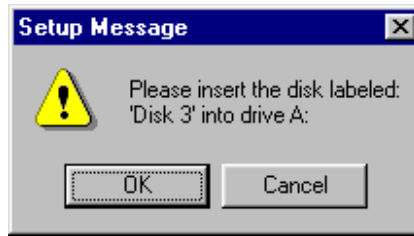

Figure 3.8
Step 7 You will see figure 3.8. Insert disk labeled Disk 3 into drive “A” or “B” and click on “**OK**” button.